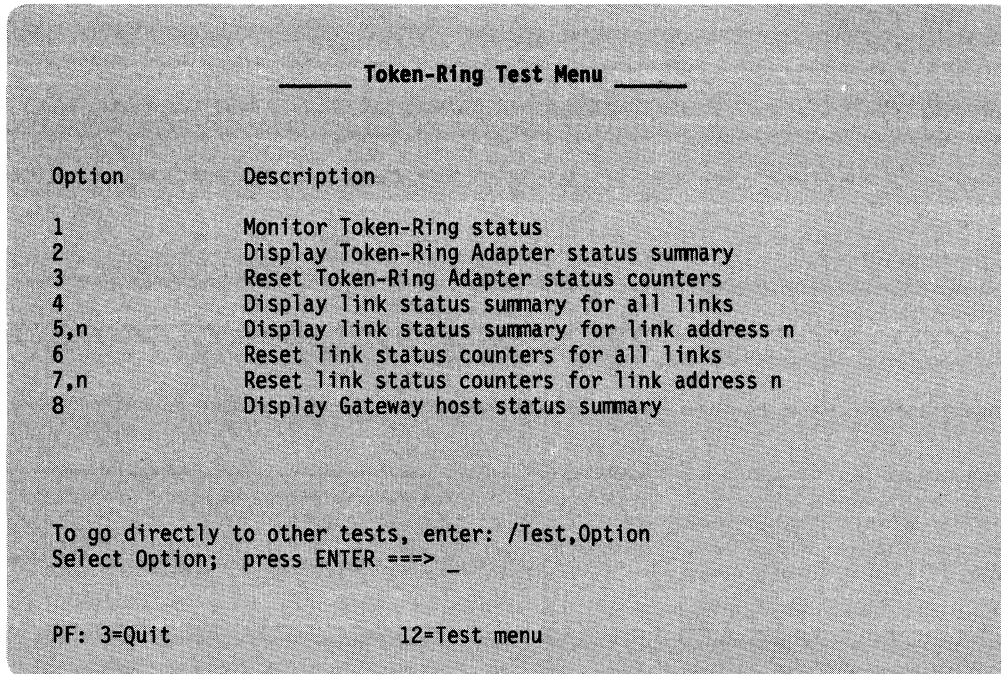

Figure 3-24. Test 9: Token-Ring Test Menu Panel
3. Press **Enter**; the Token-Ring Test Menu shown in Figure 3-24 is displayed